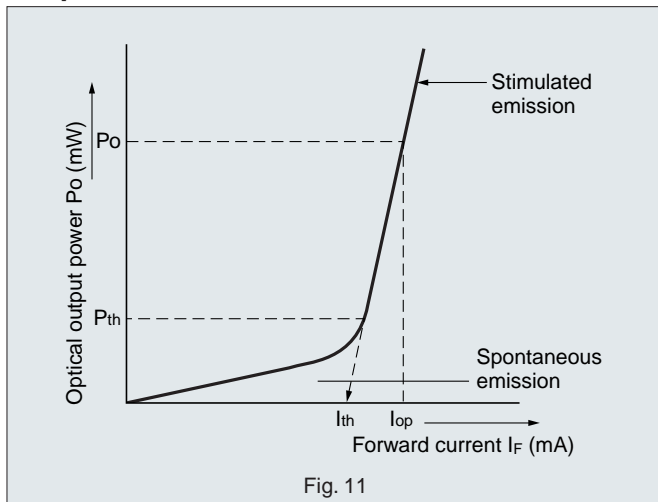

Fig. 11
■ **Optical and electrical characteristics** (Fig. 11)